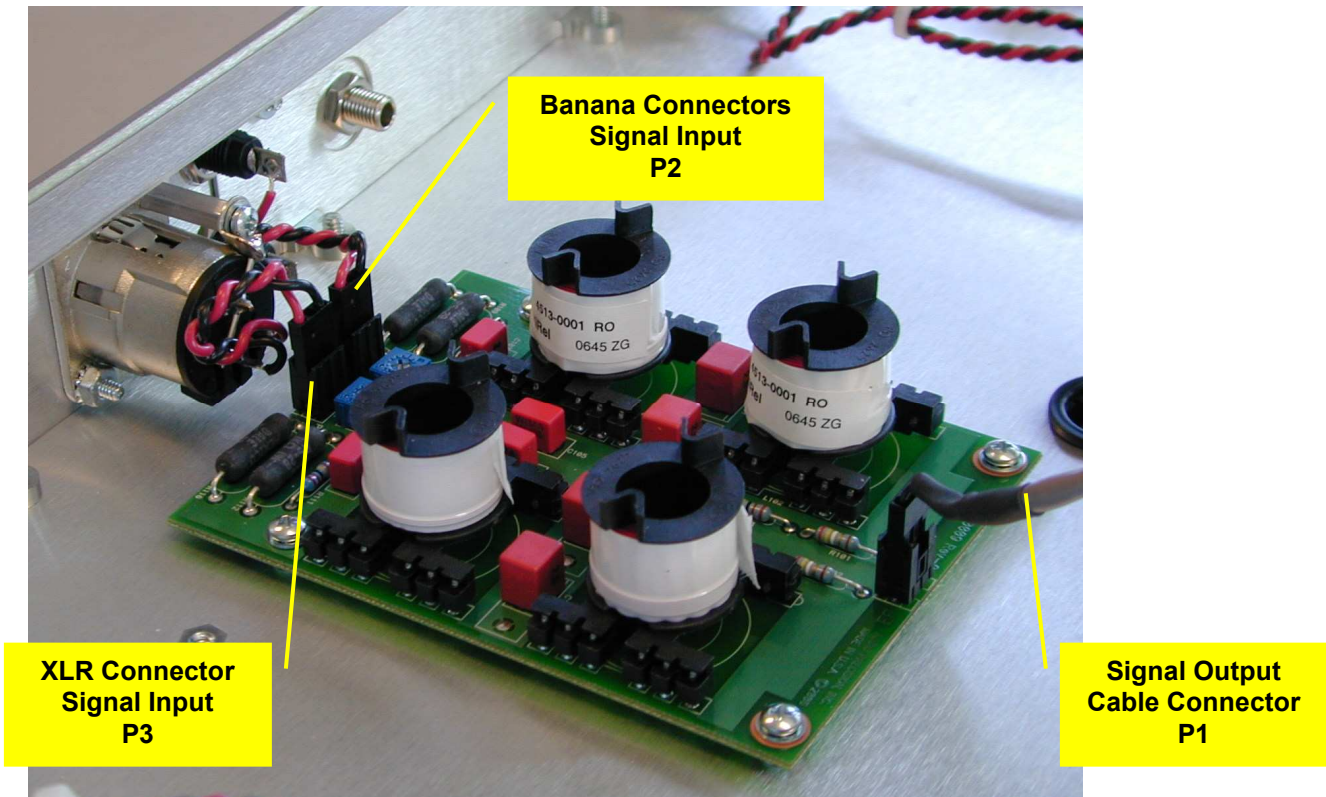

Figure 1
4. Please refer to Figure 1 for identification of the Filter Modules and disconnection of cables.